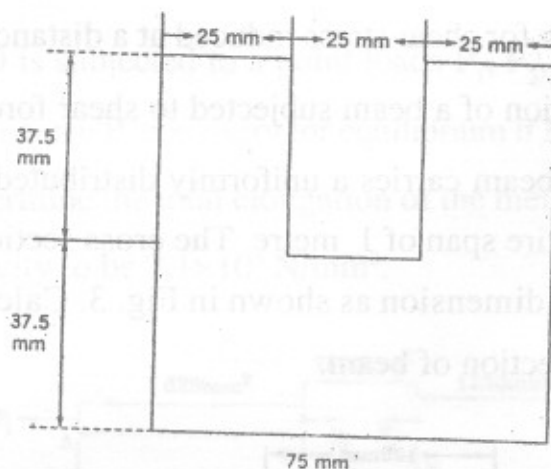

fig. 4 Q. 4(c)
- c) The beam section shown in Fig. 4 is subjected to a shear force of 35 kN.